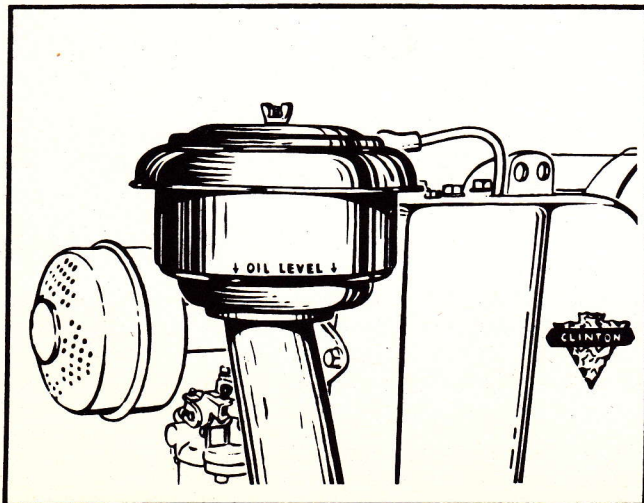

Figure No. 2
2. Fill the air cleaner with SAE 50W. The correct oil level is indicated on the face of the filter cup. (See Figure No. 2.)